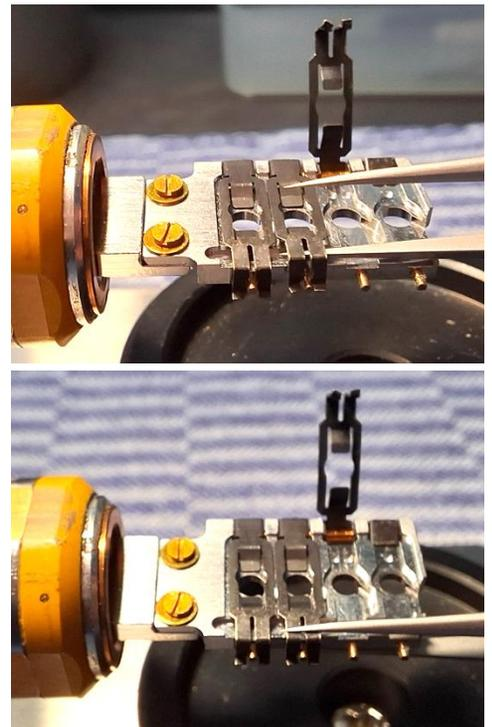

Figure 2. Top: open a latch by inserting the one arm of the tweezer underneath and lifting it up. Bottom: close the latch by squeezing around the latch.
- The latches can be opened by putting a tweezer tip underneath the latch (see Figure 2) and **GENTLY** lifting it up.
- Close the latches by squeezing them with tweezers as indicated in Figure 2.